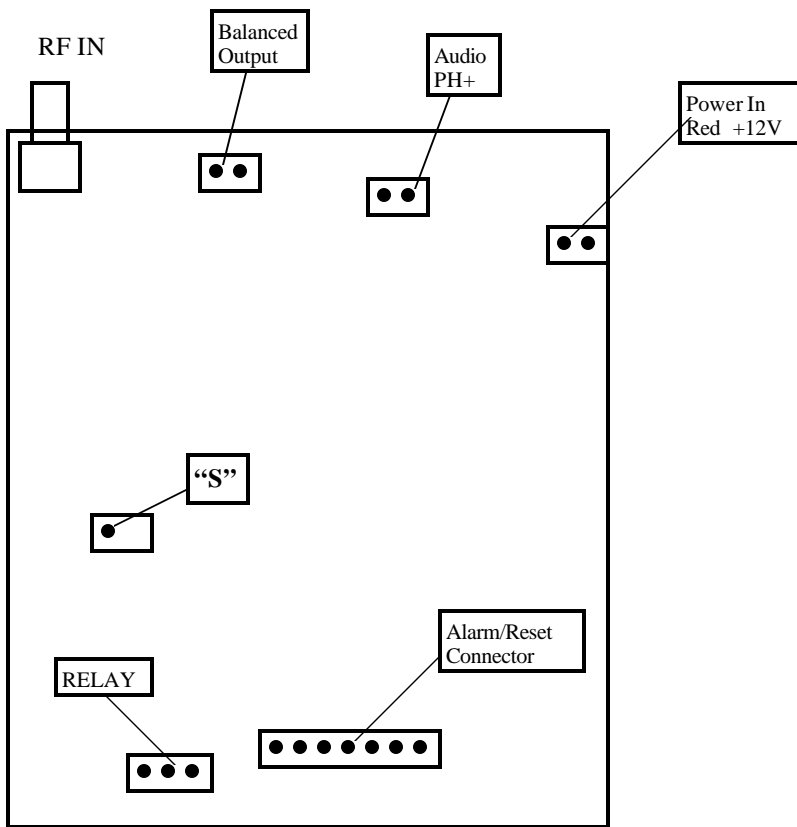

Fig. 2 General receiver board connector locations
8. Attach the cable for the Balanced output (orange and white wires from the rear panel mounted DIN connector) to the two pin connector on the board marked BAL OUT. (See Fig. 2 for general board header location.)